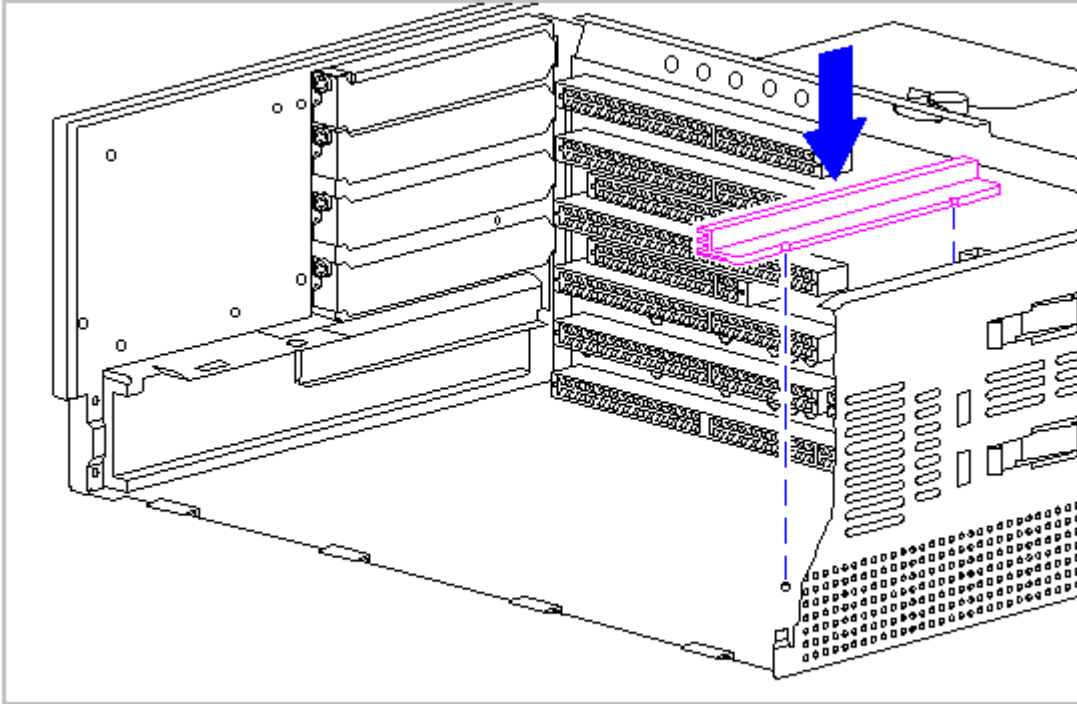

Figure 5-55. 486-Based System Board Guide
5. Remove and discard the system board guide. A small, flat-bladed screwdriver can be used to pry the guide from the chassis (Figure 5-55).
7. Remove the protective strip from the back of the system board guide and install the guide, using the bosses on the pan of the chassis as guides to position the guide properly (Figure 5-55).